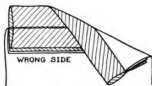

FIGURE 109
*Inconspicuous Piping* (Figure 109). — Cut a bias strip that is the desired width and length, plus seam allowance, and, with a warm iron, crease the center of the bias so that the raw edges are even. Place the bias on the right side of the article to be piped